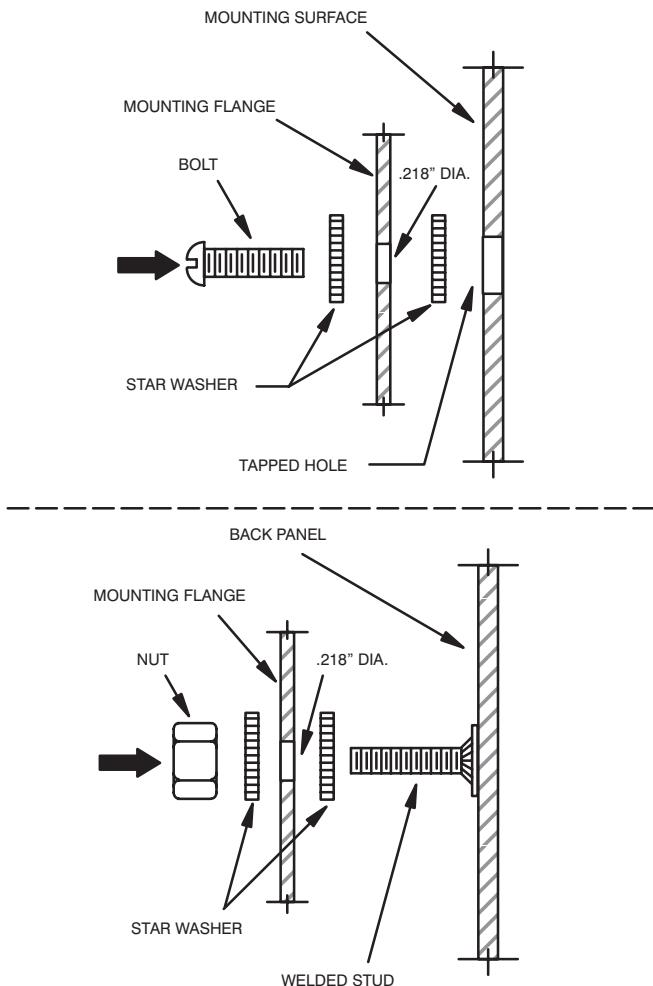

Figure 3.18 - Mounting Examples
Step 2. Mount the Remote I/O Head on the panel and attach it securely with #10 (M5) bolts or studs. Examples of attaching the Remote I/O Head to the mounting surface are shown in figure 3.18.
- Step 2. Mount the Remote Drive Interface Head on the panel and attach it securely with #10 (M5) bolts or studs. Examples of attaching the Remote Drive Interface Head to the mounting surface are shown in figure 3.18.